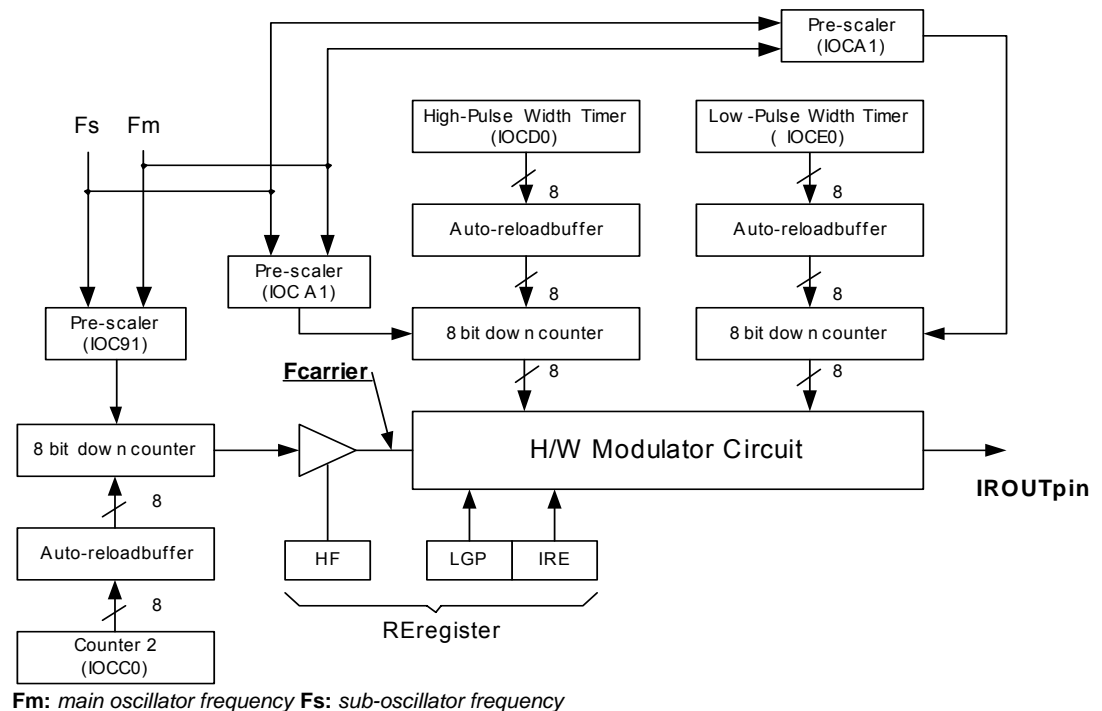

Fig. 6-20 IR/PWM System Block Diagram
This LSI can output infrared carrier in user-friendly or in PWM standard waveform. The IR and PWM waveform generated functions include an 8-bit down count timer/counter, high-pulse width timer, low-pulse width timer, and IR control register. The IR system block diagram is shown in Fig. 6-20. The IROUT pin waveform is determined by IR control register (RE), IOC90 (Counters 1 and 2 control register), IOCA0 (high-pulse width timer, low-pulse width timer control register), IOCC0 (Counter 2 preset), IOCD0 (high-pulse width timer preset register), and IOCE0 (low-pulse width timer preset register). Details on F_{carrier}, high-pulse time, and low pulse time are explained as follows: